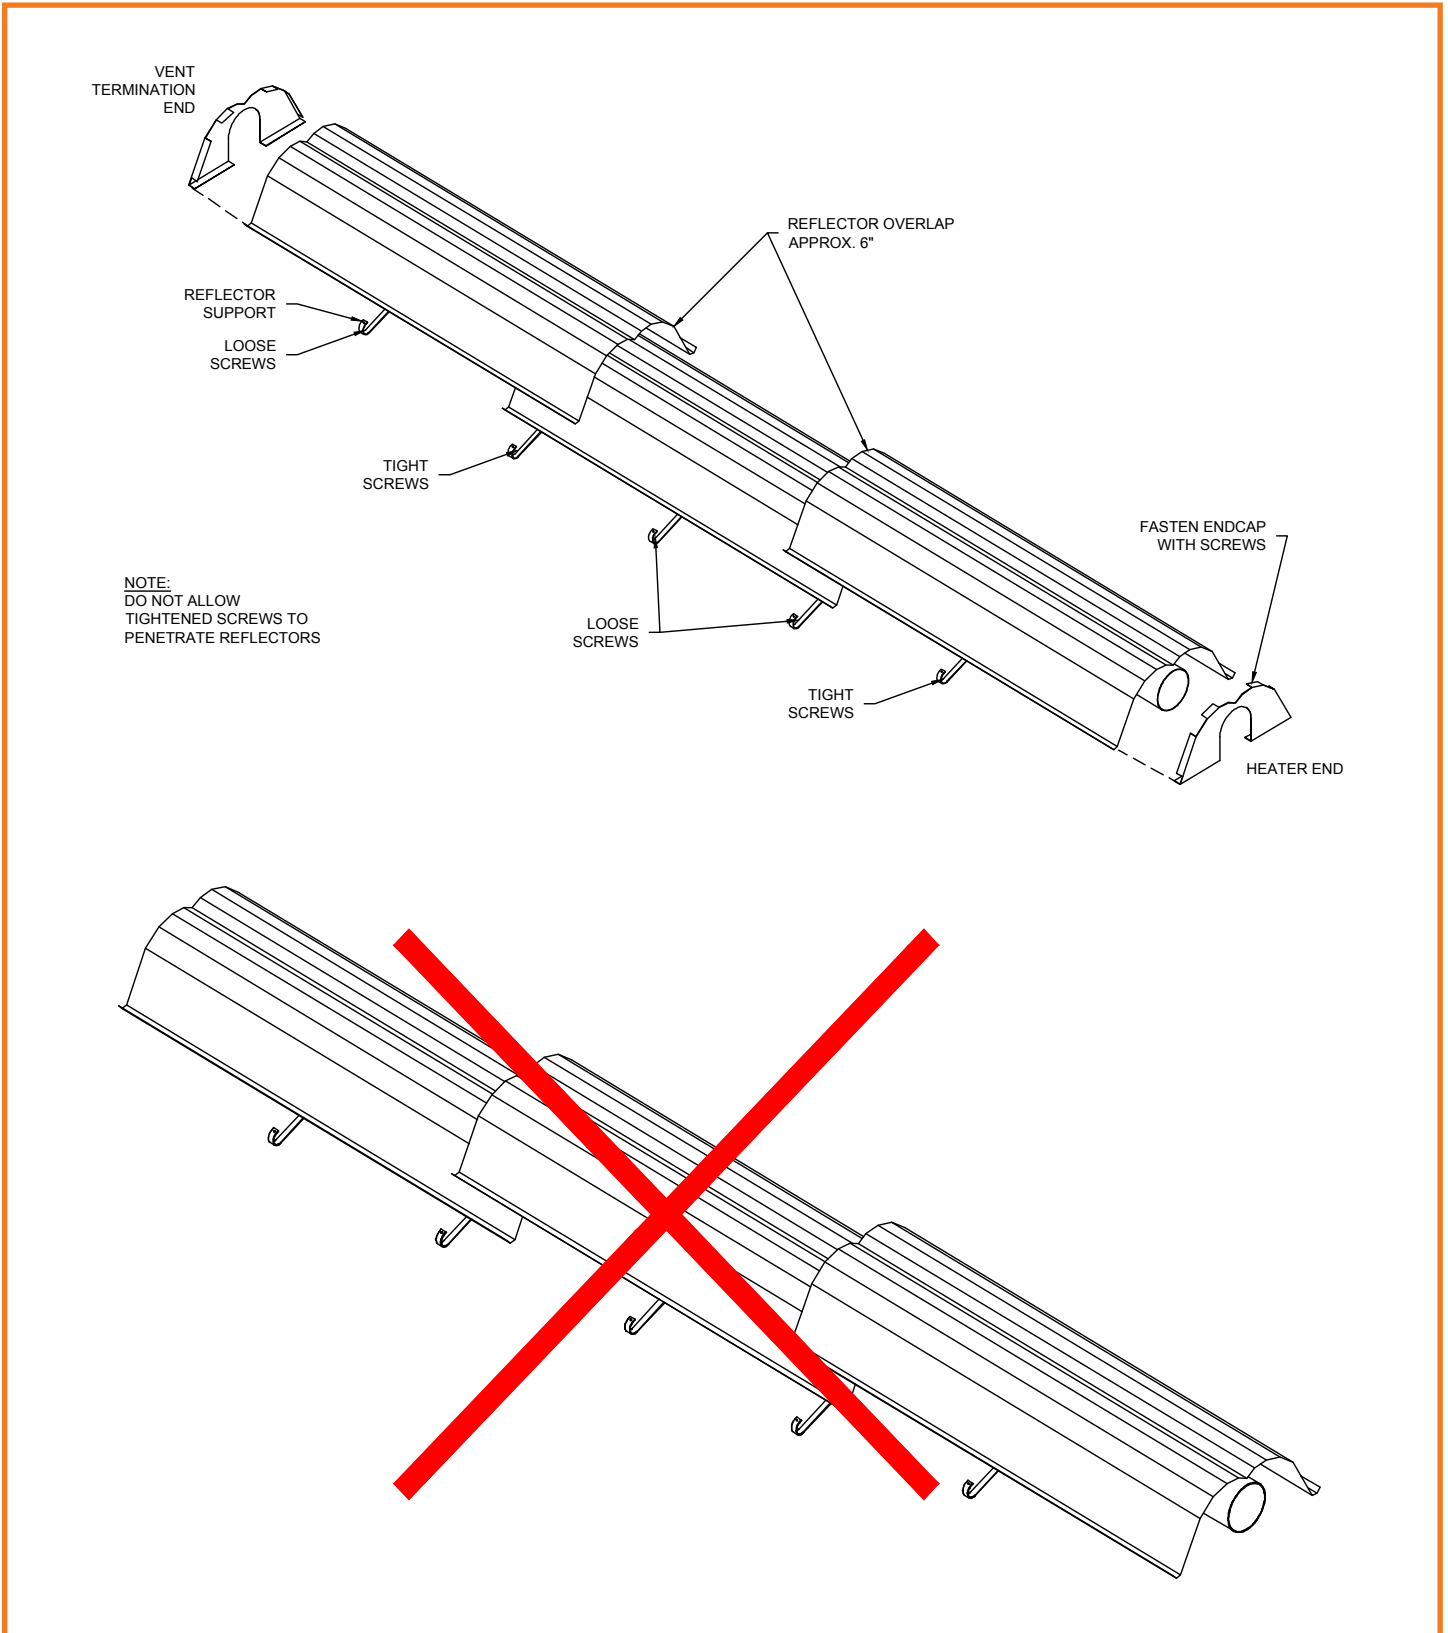

Figure 16: Reflector Support Bracket Installation
**Note:** Reflectors should overlap adjacent reflectors 4" to 6". Be sure not to tile reflector sections; that is, reflector sections must be either above both adjacent reflector sections, or below both adjacent reflector sections. Refer to Figure 16..